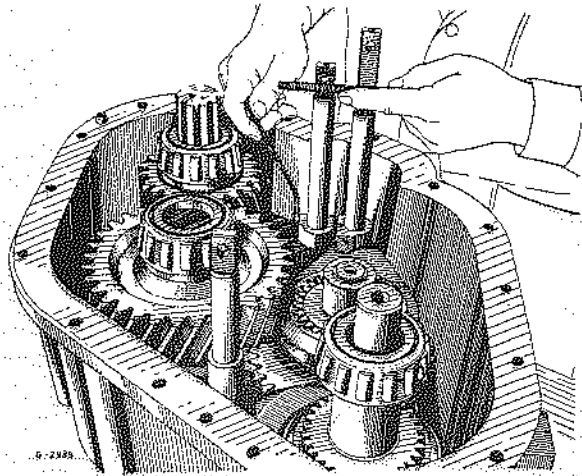

Fig. 11 - Checking shift rod with a
6. With both shift rods moved as far as possible down, insert the shift fork locking bolts and spring washers. Using a straight edge ensure the flats on the shift rods at the top end are in line, and then tighten the shift rod locking bolts (Fig. 11).